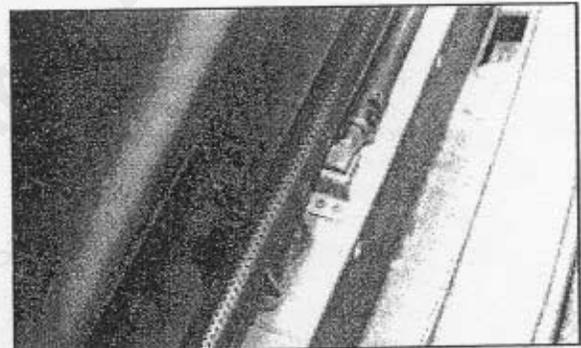

**Figure 20A** Removal of Sealed Glass
2. To remove the sealed glass, loosen the four (4) nuts on the bottom glass frame with a 3/8" nut driver or socket, but do not remove. See Figures 20A and 20B. Next remove the six (6) nuts on the glass frame. Hold the glass in place while removing the six (6) nuts. See Figure 20B. Carefully lift the glass and frame from the appliance.